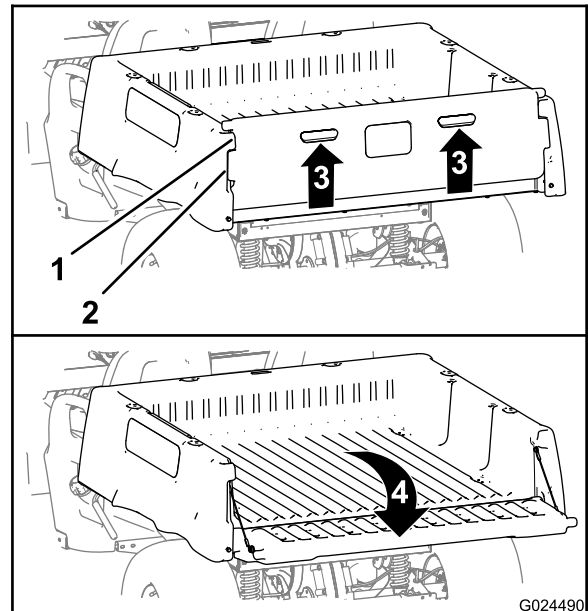

Figure 16
2. Lift up the finger pulls at the back panel of the tailgate (Figure 16).
3. Align the lock flanges of the tailgate with the openings between the tailgate flanges of the cargo bed (Figure 16).
4. Rotate the tailgate rearward and down (Figure 16).
6. Rotate the tailgate up and forward until the lock flanges of the tailgate are flush with the tailgate pocket in the cargo bed (Figure 16).
7. Lower the tailgate until it is seated in the back of the cargo bed (Figure 16).